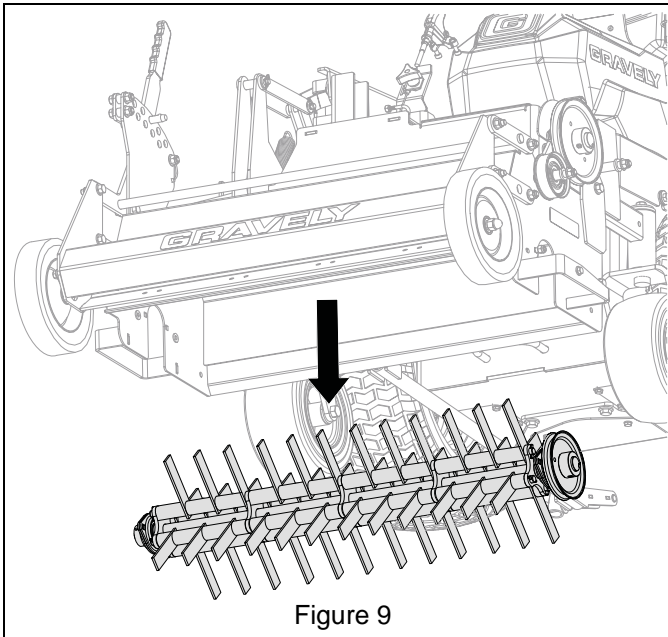

Figure 9
8. Remove and retain two hex bolts and nyloc nuts from left flange bearing. See Figure 9.
10. Remove blade assembly. See Figure 9.